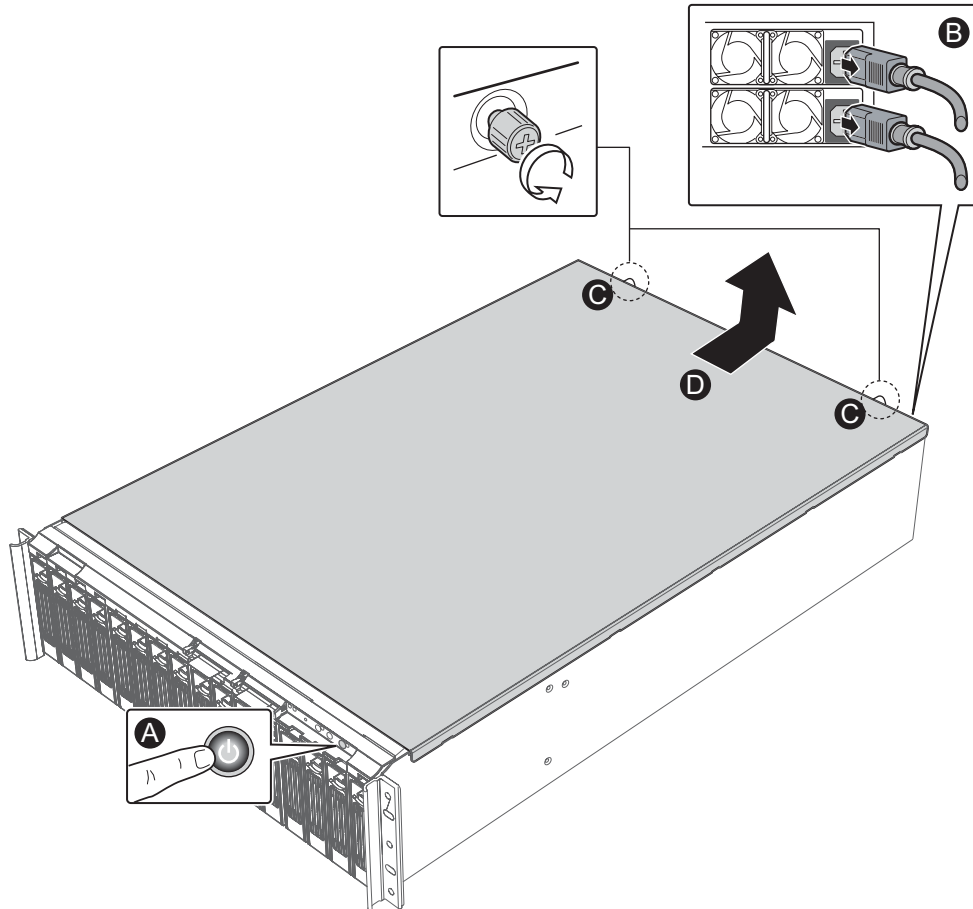

Figure 23. Removing Chassis Cover
- B. Remove both AC Power cords from the AC Power inputs on your system. See Figure 23.
- C. Loosen the two thumb screws from the top of the chassis cover. See Figure 23.